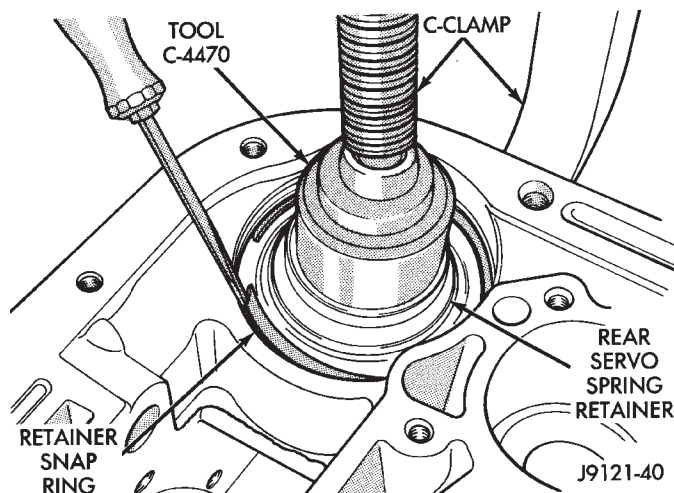

Fig. 123 Rear Servo Snap Ring
(4) Compress rear servo piston with C-clamp or Valve Spring Compressor C-3422-B and install servo piston snap ring (Fig. 123).